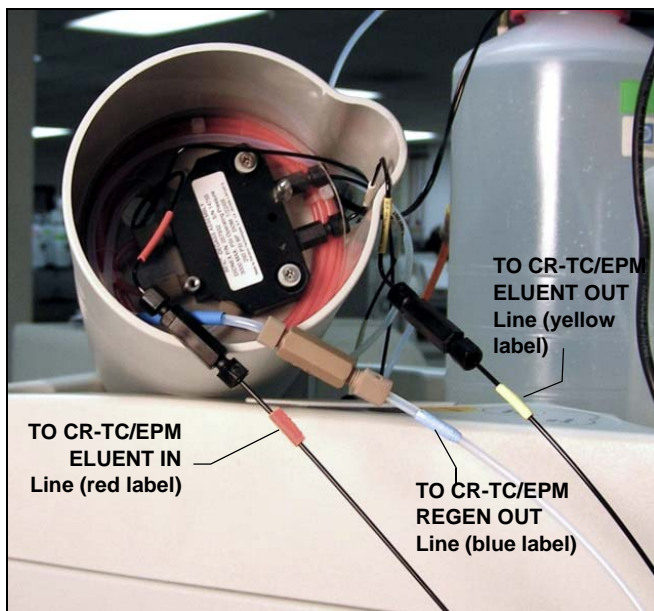

Figure 57. Dionex EPM Eluent and Regen Line Extensions
- a. Disconnect the **TO CR-TC ELUENT IN** line (red label) from the coupler that connects it to the **TO CR-TC ELUENT OUT** line (yellow label). Connect a 32 to 10-32 coupler to the end of the **TO CR-TC ELUENT IN** line and connect the 30 cm (12 in) length of black PEEK tubing (red labels) (P/N 064334) to the coupler (see Figure 57).